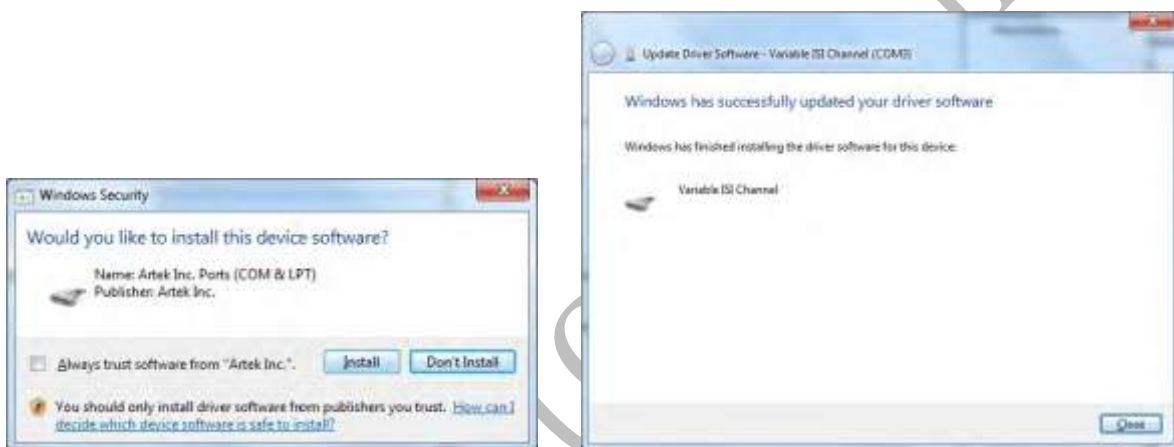

FIGURE 49. WINDOWS SECURITY WINDOW AND CONFIRMATION WINDOW
- d) Click **Next**. You will be asked to confirm your request to install a driver. See Figure 49.